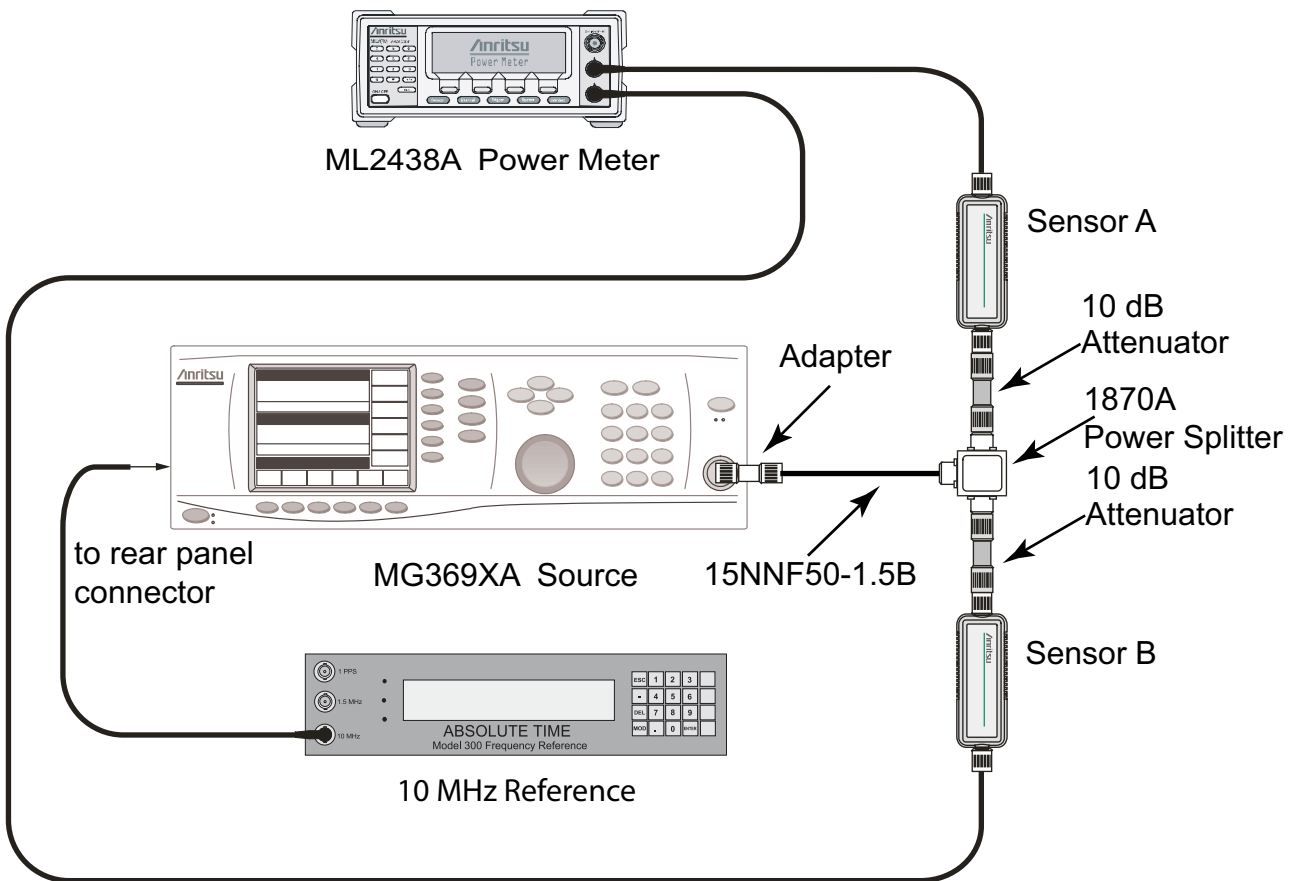

Figure 2-11. 9 kHz to 100 kHz Amplitude Accuracy Verification Component Characterization
1. Connect the equipment as shown in Figure 2-11.